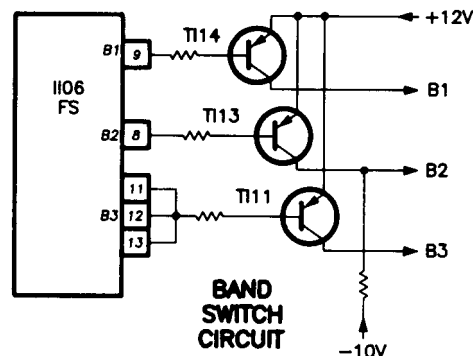

Fig. 14 Tuners/Band Switching
Figure 14 shows the MTP-M-2016 and 2030 tuners. There are a few checks that can be made to determine whether the tuner is defective.
1. Monitor the tuning voltage at the test point through the hole in the tuner shield as shown in figure 14. The tuning voltage should vary anywhere from 1 VDC to about 30 VDC while attempting to tune a channel. If it does change when you select various channels, you can be sure that the tuner is receiving commands from system control. If the voltage does not vary, connect a variable DC supply to the tuning voltage test point. Apply an RF signal to the tuner and select an active channel. Vary the DC supply from 0 to about 15 VDC. If you can see a picture being tuned as you vary the supply, the RF section of the tuner and the IF stages can be assumed good.
2. Verify that the band switches are operational. This is a difficult procedure because of the location of the band switching transistors. Figure 14 shows the band switching chart and the location of the band switch transistors on the tuner module. Select the air channels as shown in the chart and verify voltages on the base and collectors of transistors T111, 13, and 14.